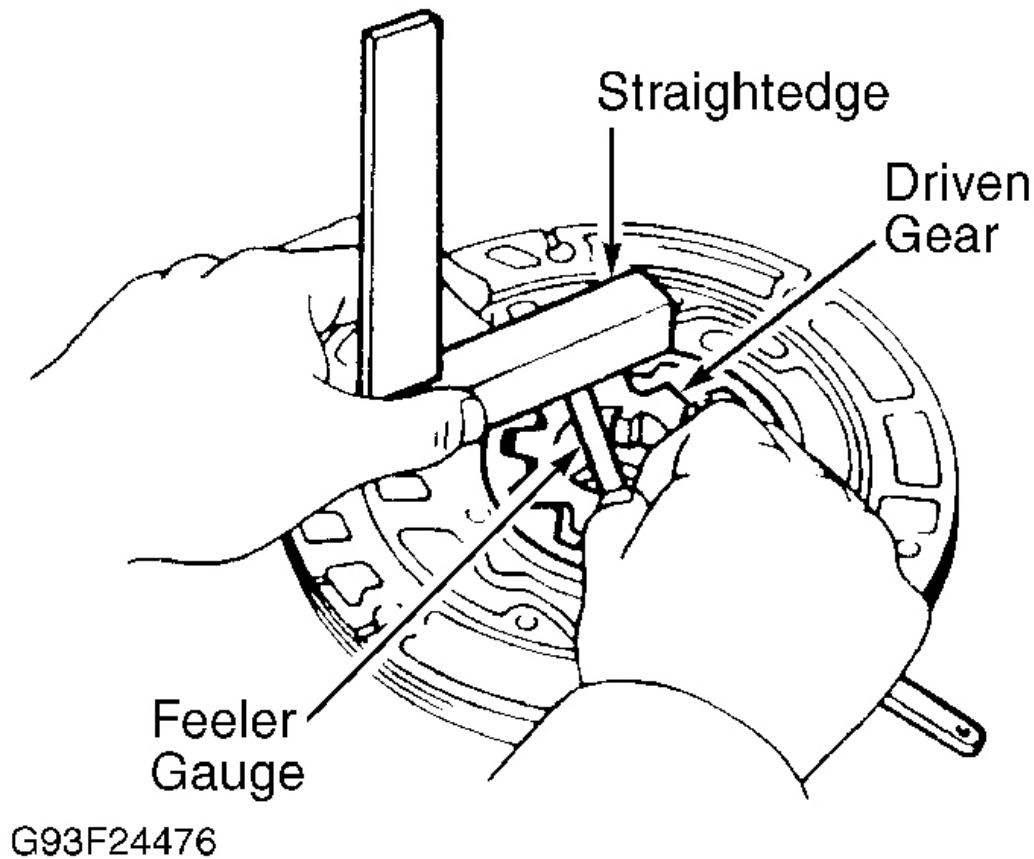

Fig. 17: Checking Oil Pump Gear Side Clearance
3. Using a feeler gauge and straightedge, measure side clearance of both gears. See **Fig. 17** . Replace pump body if clearance is not within specification. See **OIL PUMP CLEARANCE SPECIFICATIONS** table. Drive and driven gears are available in 3 different thicknesses. See **DRIVE & DRIVEN GEAR THICKNESS SPECIFICATIONS** table.